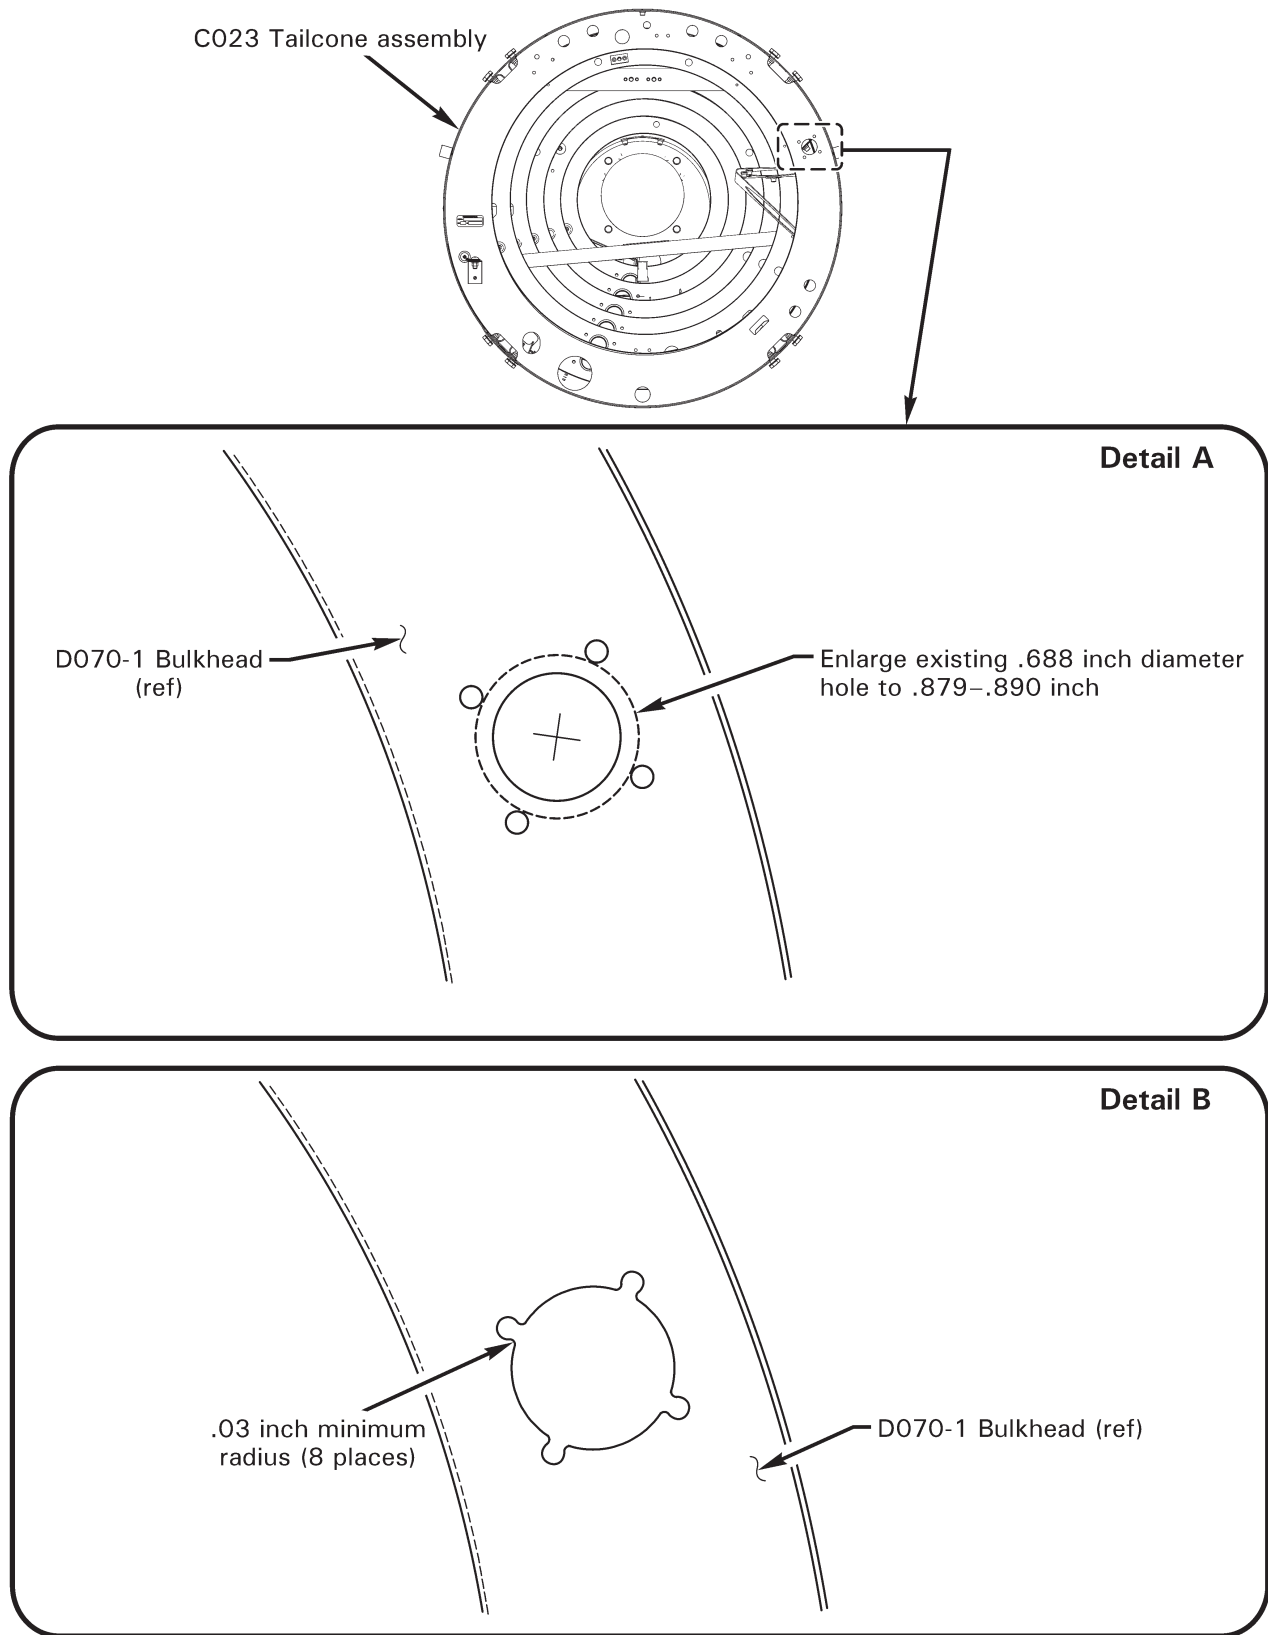

FIGURE 1
1. Refer to Figure 1, Detail A. On D070-1 bulkhead of new tailcone, enlarge existing .688 inch diameter hole to .879-.890 inch using step drill.
2. Refer to Figure 1, Detail B. Remove material between enlarged hole and four existing holes. Deburr hole, smooth edges, and clean up debris. At installer's discretion, alodine and prime as described in NOTE below.